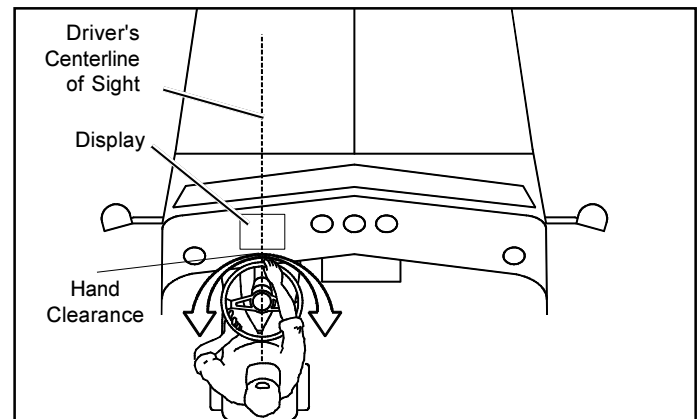

Figure 4 Dashboard Considerations
not interfere with the driver's ability to turn the steering wheel, access controls or view any gage or display. When mounting, make sure the display is as close to being in line with driver both square and horizontal. See Figure 4.
4. Establish the driver's centerline of sight. See Figure 4.
If used with an IR camera these variables will determine if an overhead mount can be used. The display should be mounted so that the flat panel display is in his/her peripheral vision to minimize head movement. Ideal overhead mounting conditions should result in a look-up angle of 6 to 24 degrees. See Figure 4.
3. Determine the driver's centerline of sight. Refer to Figure 4.
NOTE: If possible the centerlines of the driver and the display should line up. Refer to figure 4.